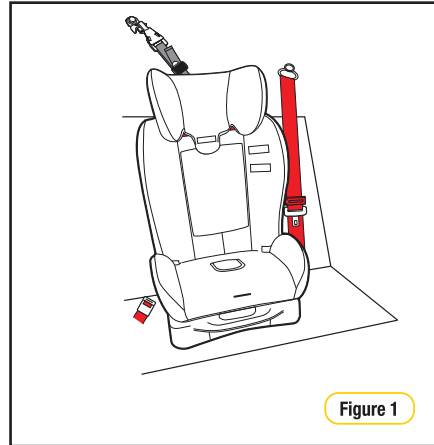

Figure 1
**Step 2:** Place the restraint in desired upright or reclined position, with the back against the back of the vehicle seat, directly in line with the anchorage point (refer Figure 1).